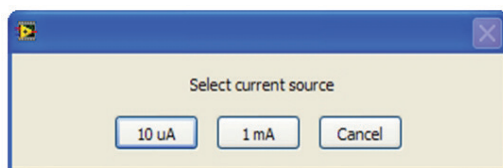

Figure 6.2
3. Click on the “Current Source” button of the Utility Software Calibration window. This opens up a warning window. Click on “Proceed” to continue. The next screen is shown in figure 6.2.
3. Click on the "Current Source" button of the GUI Calibration window. This opens up a warning window. Click "Proceed" to continue. The next screen is shown in Figure 6.2.